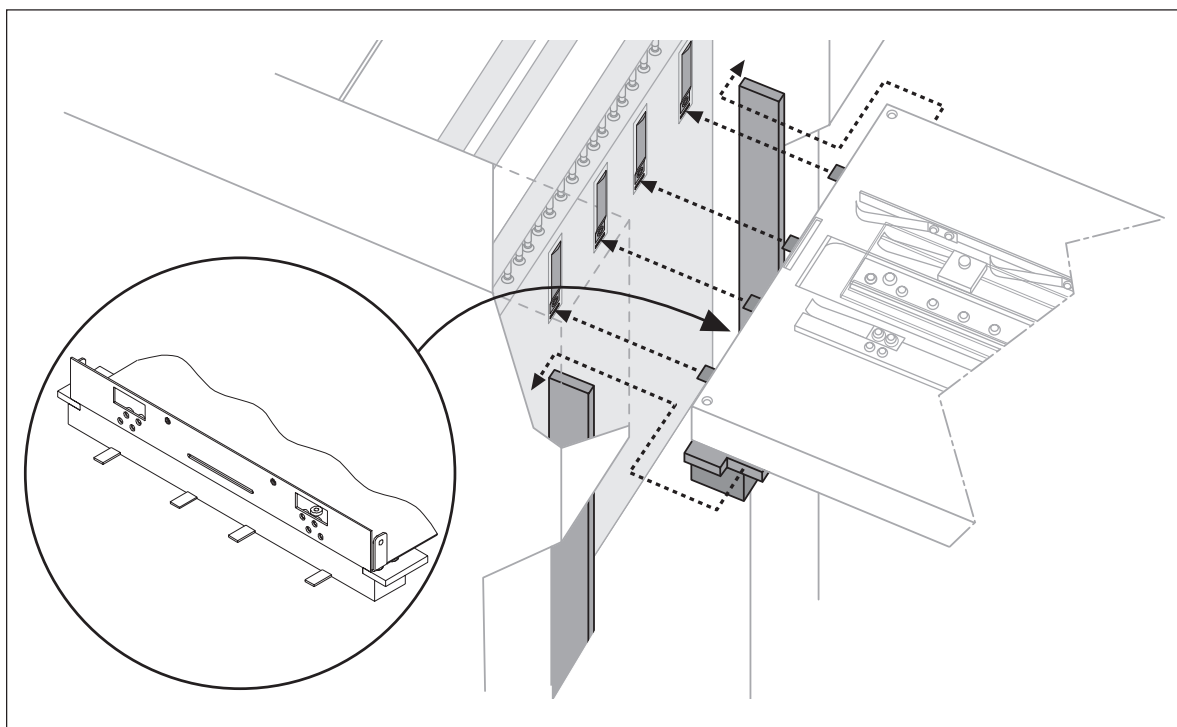

Figure 3. Connect the Printmaster to the 270RT Feeder
5. Ensure that the four flat brackets connect to the slots of the offset press, and that the top of the 270RT table is aligned to the top of the press registration bar (Figure 3).